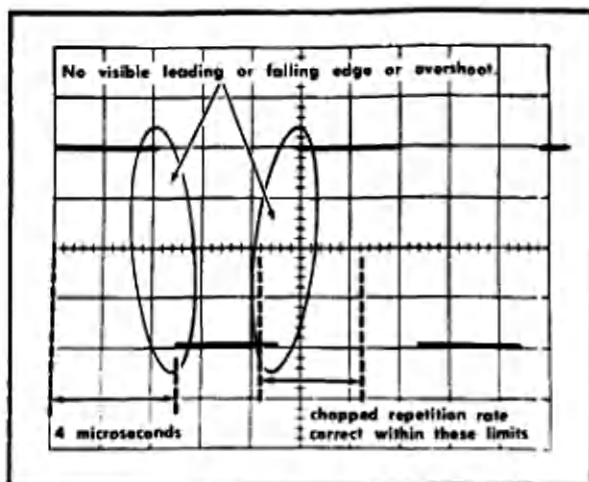

Fig. 6-52. Typical CRT display when checking chopped repetition rate and blanking. Sweep rate, two microseconds/division.
- CHECK—CRT display for duration of each cycle between 4.2 and 6.25 divisions (100 kilohertz, $\pm 20\%$; see Fig. 6-52).
- CHECK—CRT display for complete blanking of switching transients between chopped segments (see Fig. 6-52).